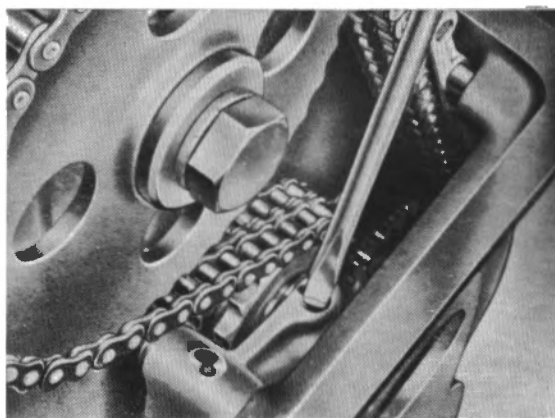

Fig. 05-10/1
5. Fill the oil case in the cylinder head with engine oil. Use Bleeder Lever Part No. 187 589 02 63 or, if necessary, a screw driver to push the tension sprocket bearing as far as it will go (see Fig. 05-10/1). Slowly release the lever or the screw driver at the same time filling up the oil in order to ensure that the oil case is always full and the chain tensioner cannot suck in any air. Repeat this procedure until there are no longer any air bubbles on the chain tensioner. When the chain tensioner is properly bled there is no free travel and even at the beginning the tensioner can only be compressed with considerable force.